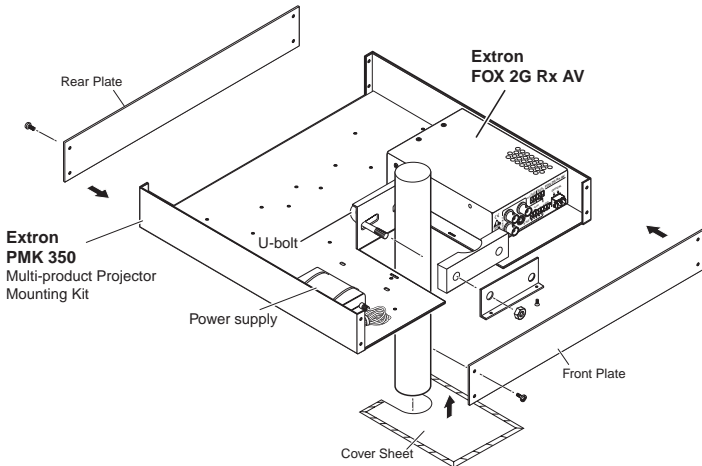

Figure 2-4 — Projector mounting
5. Mount the power supply, using the provided plastic ties or Velcro® strips (see figure 2-4 below).
- Reattach the cover sheet (see figure 2-4).